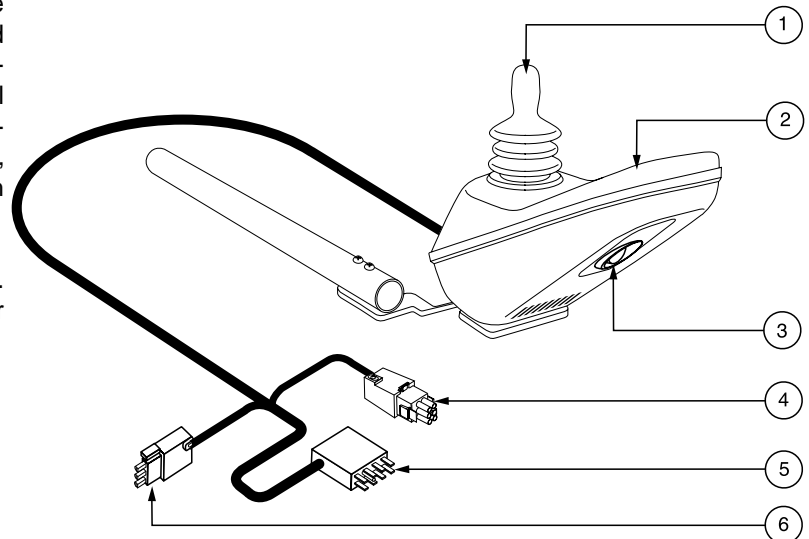

Figure 21 VSI Controller
The VSI controller is an integral electronic controller. All of the electronics necessary to operate the power chair are contained in one module. See figure 21.
2. keypad (see figure 21.)
You may use an off-board charger to charge the power chair batteries through the 3-pin socket located on the front of the VSI. See figure 21. If you use an off-board charger, the charger current should not exceed 12 amps. Contact your authorised Pride provider for more information.